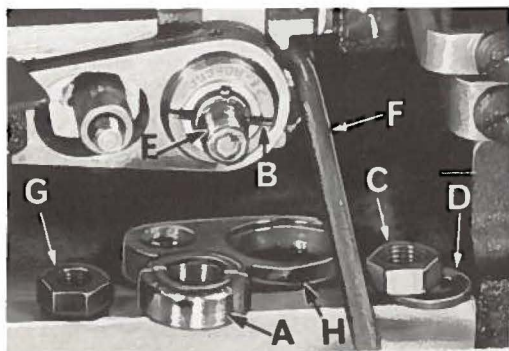

Fig. 14
If eccentrics are unusually tight fitting, in addition to removing nut (C) and washer (D) (Fig. 14) from shaft (E), it may be helpful to remove nut (G) and feed driving connection (H). Then continue as originally suggested.